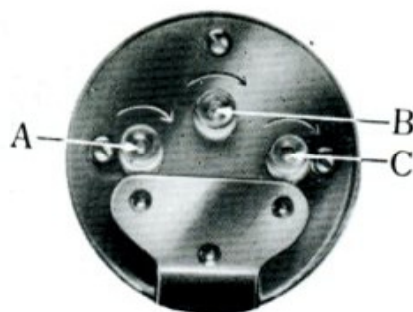

Fig. 13
- b. You can set the figures on the row counter to zero by turning screws clockwise as indicated by arrows over the 3 setting knobs on the back of the row counter. (See Fig.13)